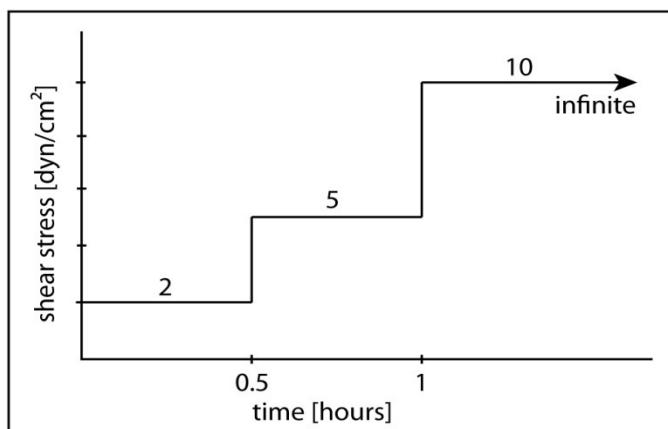

Figure 26 Shear stress profile of demo experiment
The flow rate profile is programmed to create a stepwise increase of the shear stress as shown in Figure 26.
- Connect an unsterile Slide and perform "Demo experiment" (Tutorial \rightarrow Load demo setups \rightarrow Demo experiment). See Figure 26 for shear stress profile. Let it run for at least 3 hours and confirm that the flow is running and the reservoirs do not run dry.